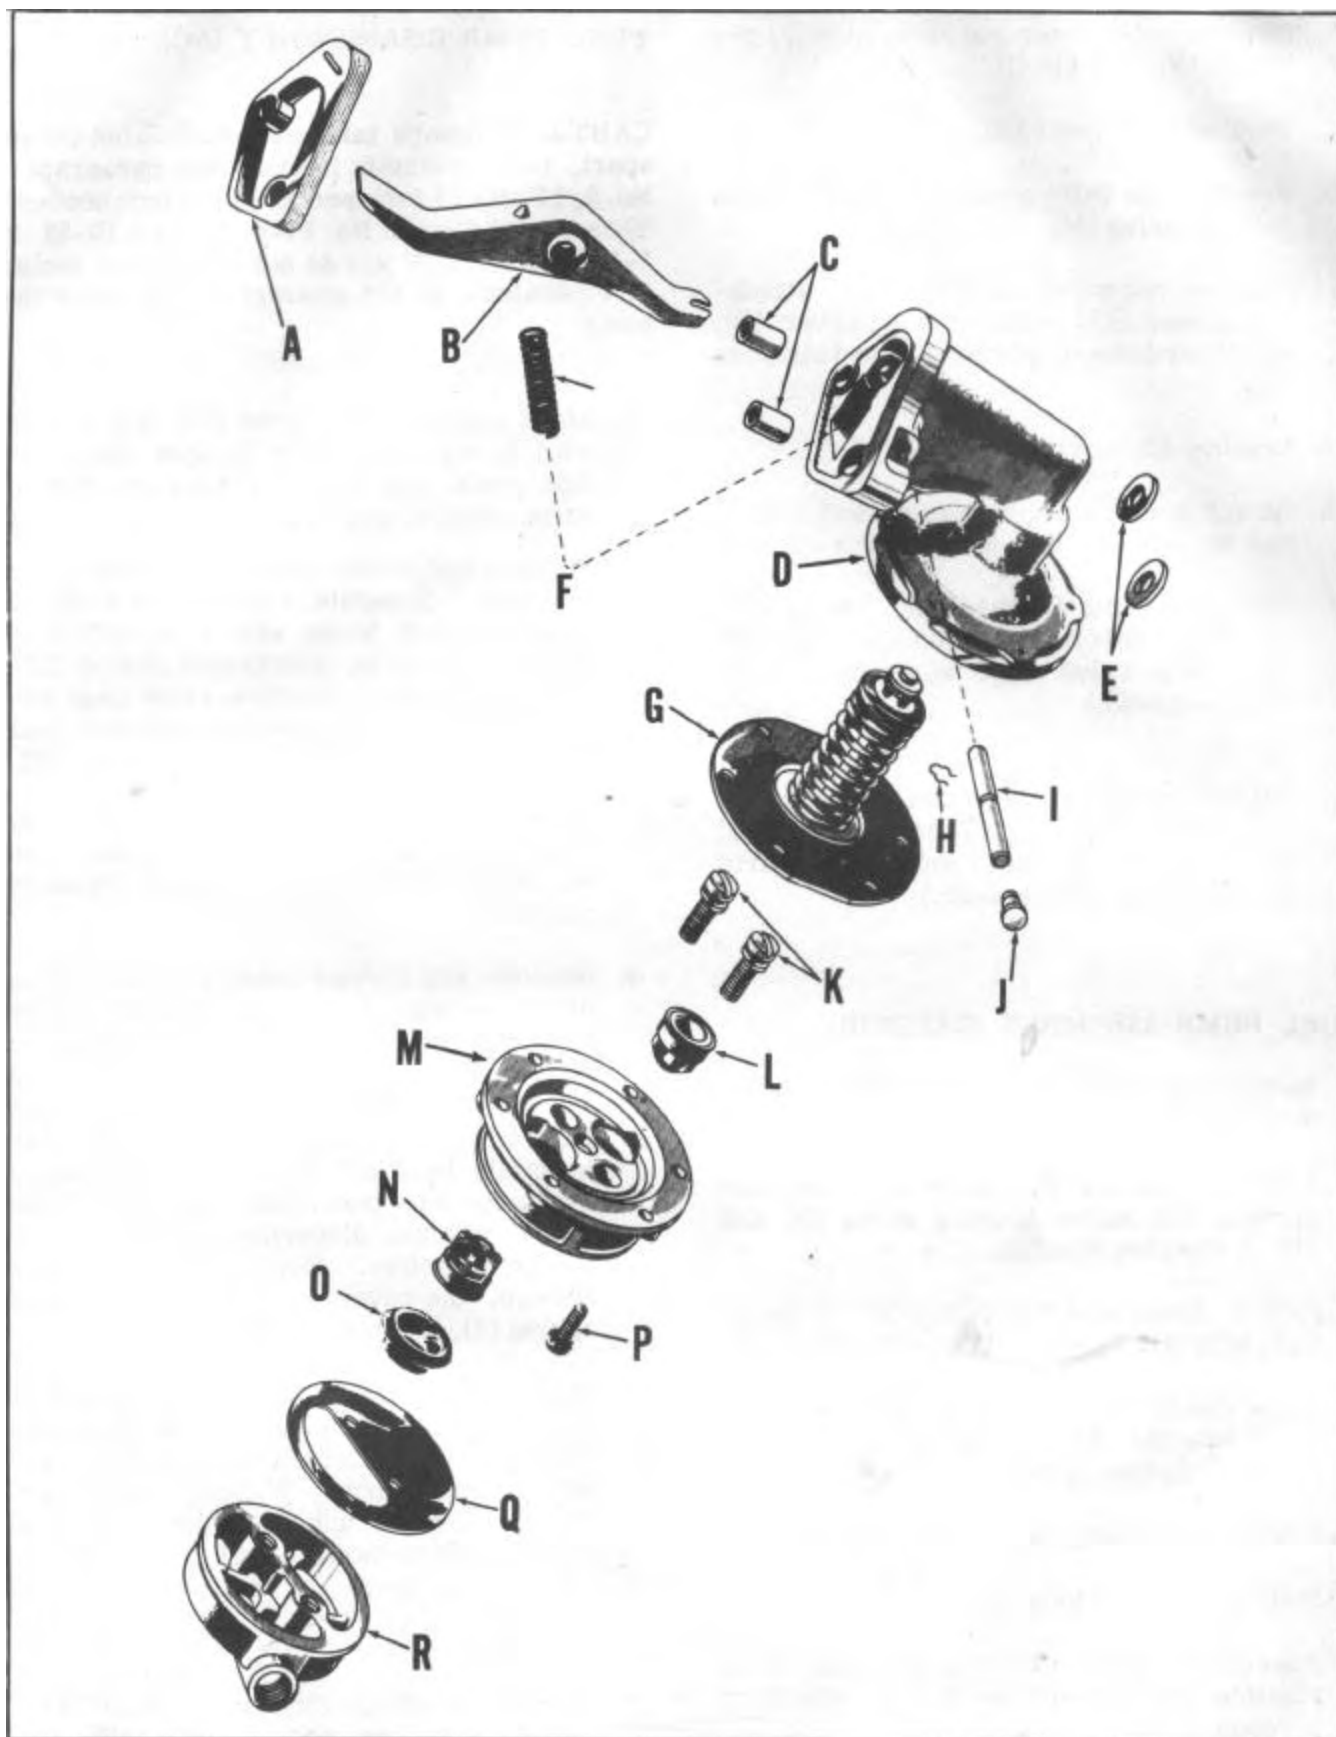

FIGURE 105
Install in reverse of removal. Make sure flange gasket (A), Figure 105, mounting stud insulator bushings (C) and washers (E) are placed as indicated in exploded view.
2. Remove cam lever return spring (F), Figure 105.